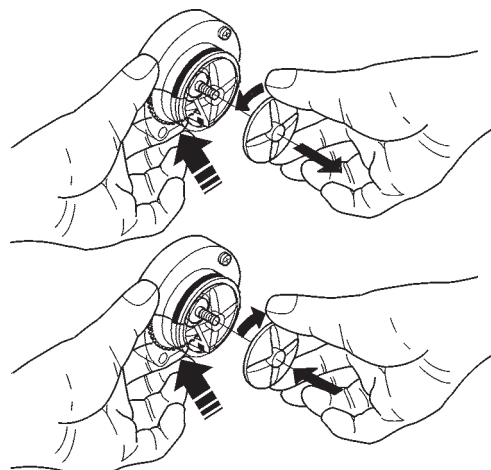

Fig. 23
- in order to remove the impellers, block the disk fitted on the mixer shaft with a finger (see Fig. 23).